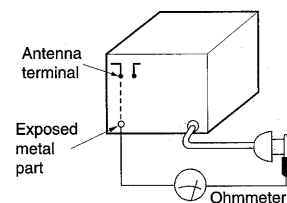
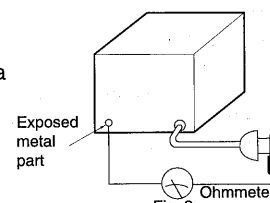

Fig. 1
Fig. 2
- Measure the resistance value with ohmmeter between the jumper AC plug and each exposed metal cabinet part ,such as screwheads, antenna ,control shafts ,handle brackets , etc . Equipment with antenna terminals should read between 3MΩ and 5.2MΩ to all exposed parts* .(Fig. 1) Equipment without antenna terminals should read approximately infinity to all exposed parts . (Fig. 2)